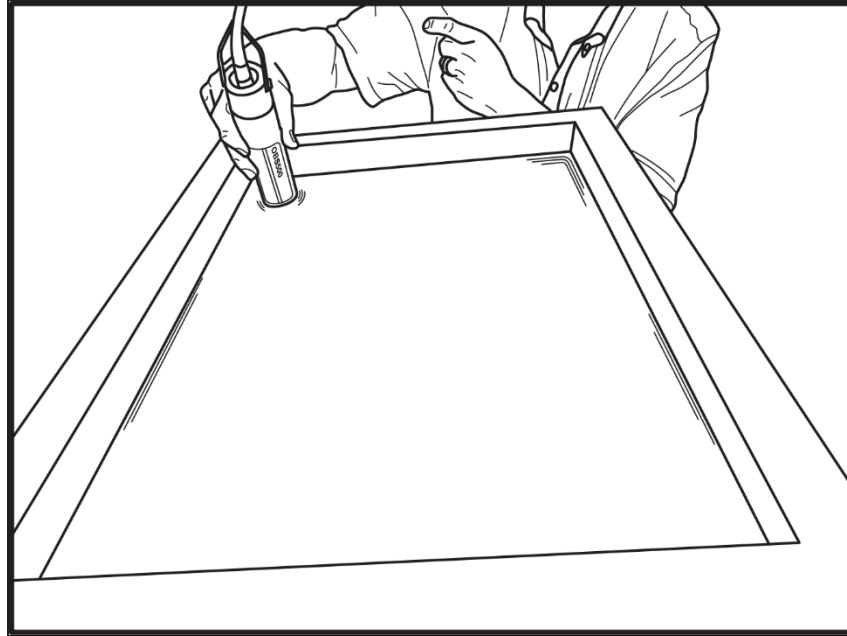

FIGURE 7-6. Position of OBS500 in clean tap water in big black tub
1. Swab sensor with an alcohol-soaked towel to sterilize it. Position the OBS sensor in a large, black tub of fresh tap water as shown in FIGURE 7-6 and record a 10-second average of the low-range output. Record the average output on the calibration log sheet.
1. Record and log the clean-water signal as in Step 1, Section 7.5.1, *Turbidity* (p. 23); see FIGURE 7-6. Use the same value, such as, sidescatter, backscatter, or ratio throughout the calibration.